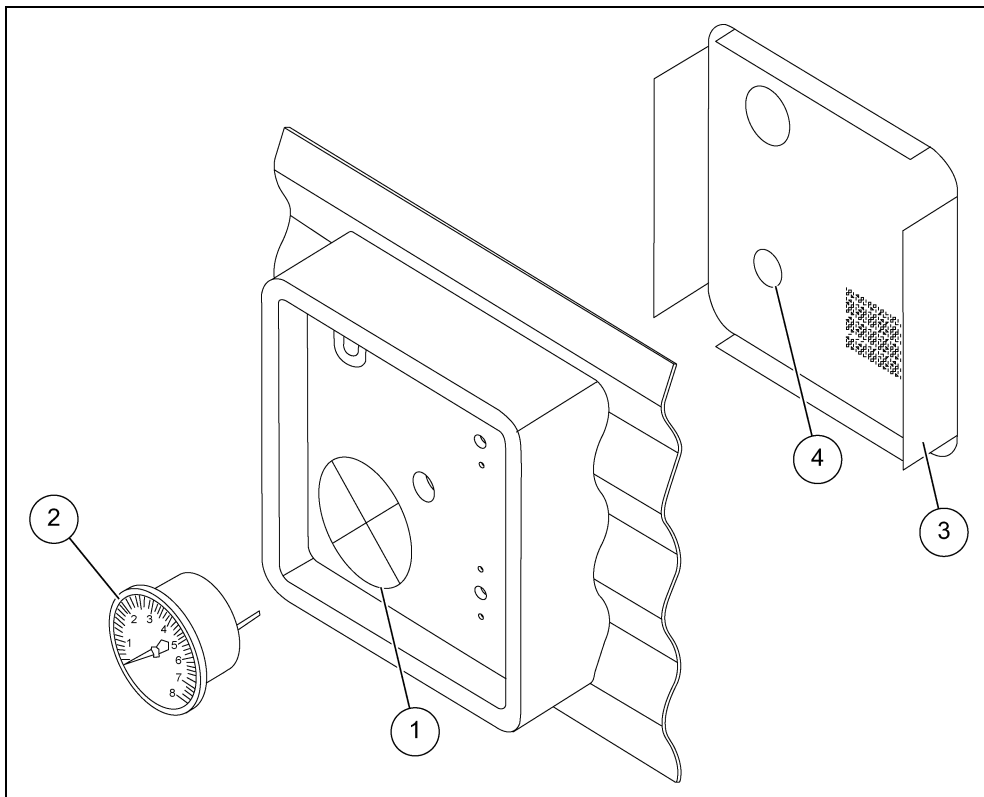

Figure 1
1. Remove rear metal cover (3) of the thermostat housing. Metal cover is held in place by sealant, so remove the sealant at the edges and also around the thermometer stem.
3. Using a utility knife, cut around this circle until the plastic cut-out (1) can be removed. Test fit the static pressure gauge (2). If needed, remove more material until the gauge fits snugly in the hole. Fill any gaps with the sealant between the gauge and the housing if necessary.
4. Mount the gauge (2) and run the copper tube through the hole (4) where indicated is shown in Figure 1. This copper tube should be inserted into the plenum with the thermostat sensor.
5. Replace the rear metal cover (3) and seal with silicone sealant.